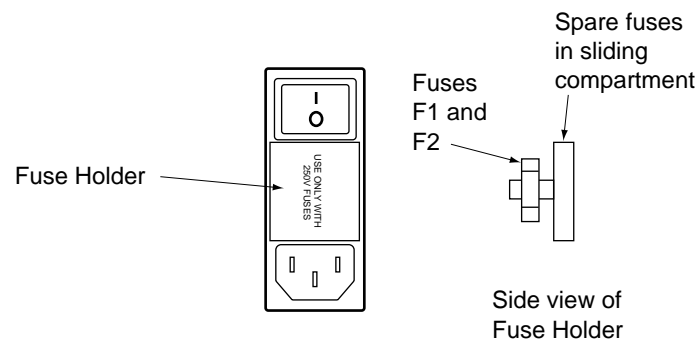

Figure 3-4. MV-5/MV-10 Fuse Holder
- the fuse holder containing the two incoming AC line fuses (spare fuses are stored in the fuse holder, see Figure 3-4.)
3. To remove the fuse holder, insert a small flat-blade screwdriver into the slot between the fuse holder and the power cord socket, then lift up to release the fuse holder; see Figure 3-4. Spare fuses are stored in the sliding compartments.